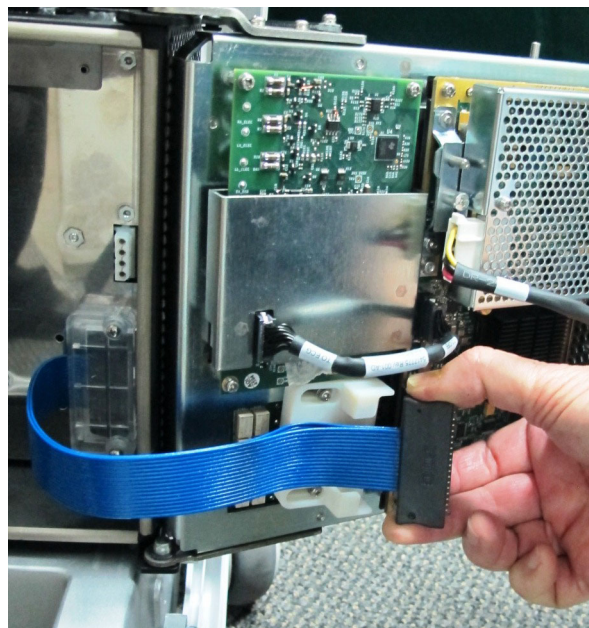

Figure 8-138 Releasing the HDR flat cable from the CFE
- c.) Gently remove the cable from the white retaining bracket to release it - see Figure 8-138.